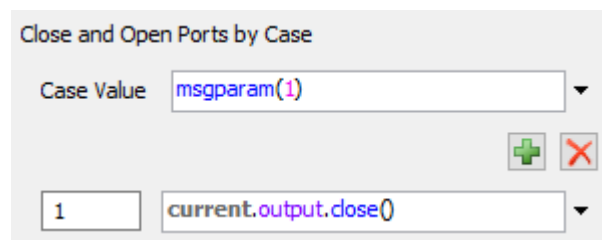

Fig. 5 *Close and Open Ports* Settings
1. **Close and Open Ports Based on Case** – based on the defined value of the given expression (*Case Value* field), the appropriate action is performed. The settings in Fig. 5 mean that the output port of the current object `current.output.close()` will be closed if the object receives a message in which the value of the first parameter `msgparam(1)` will be equal to 1.